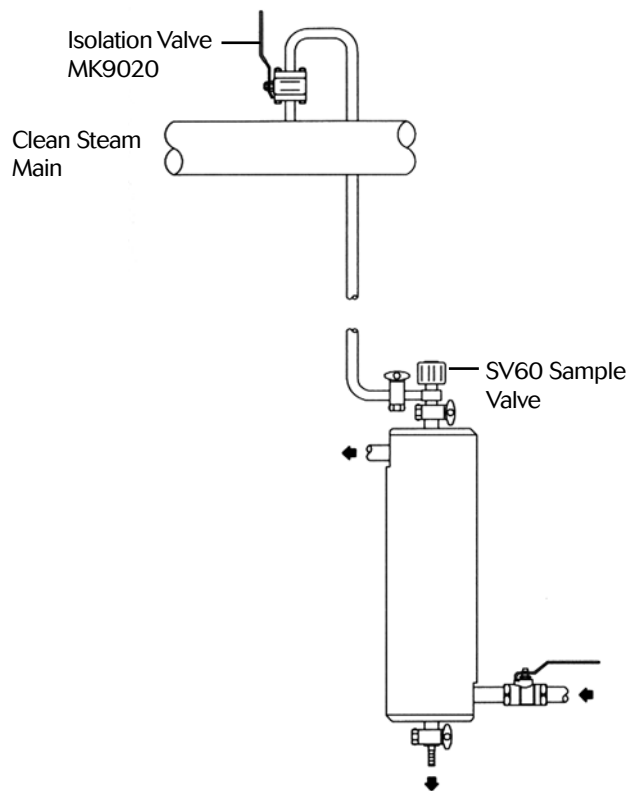

Figure 2
If the steam supply is to be isolated with a valve adjacent to the steam main (Fig. 2) then the system connection of the SV60 should be connected to the inlet of the SC60 as illustrated. When installed in this orientation any residual condensate formed in the supply pipework will flow freely through the sample cooler once the main steam line is closed.
1. Open the cooling water inlet valve (2) and ensure that a flow of cooling medium is present.
2. Slowly open the sample inlet valve (1) until a sample is obtained at the sample outlet (3). Note that excessive flow will result in a high sample temperature. Both cooling water and sample valves can be regulated to adjust the sample outlet temperature.
3. Once a suitable sample has been obtained the sample inlet valve (1) should be isolated. Cooling medium should be allowed to flow for a short period in order to condense/cool any medium passing through the coil. When no further sample is evident, isolate the cooling water supply (2). If sampling steam, and the supply is to be isolated at the steam main (Fig. 2), both the sample and cooling water valves should be left open after isolation of the steam supply to allow any residual heat energy in the supply pipework to dissipate. Once the system has cooled, the water supply may be isolated.